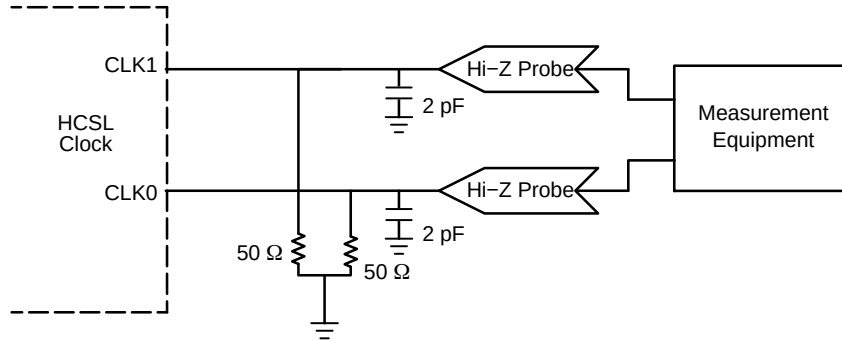

Figure 8. HCSL Parameter Measurement
6. Measurement taken with outputs terminated with $R_S = 0\ \Omega$, $R_L = 50\ \Omega$, with test load capacitance of 2 pF. See Figure 8. Guaranteed by characterization.